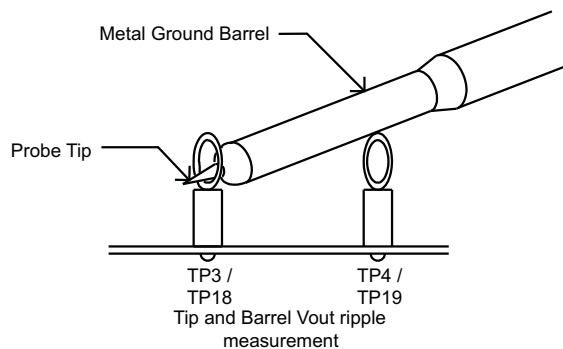

Figure 3. Output Ripple Measurement – Tip and Barrel using TP3 and TP4 or TP18 and TP19
TPS54291EVM-431 provides two test points for measuring the voltage generated by the module. This allows the user to measure the actual module output voltage without losses from output cables and connectors. All output voltage measurements should be made between TP3 and TP4. To use TP3 and TP4, connect a voltmeter positive terminal to TP3 and negative terminal to TP4. For Output ripple measurements, TP3 and TP4 allow a user to limit the ground loop area by using the Tip and Barrel measurement technique shown in Figure 3. All output ripple measurements should be made using the Tip and Barrel measurement. . Even this Tip and Barrel measurement technique increases the measured switch edge noise. For improved output ripple measurement, measure the output ripple at the output capacitor (C5)
TPS54291EVM-431 provides two test points for measuring the voltage generated by the module. This allows the user to measure the actual module output voltage without losses from output cables and connector losses. All output voltage measurements should be made between TP18 and TP19. To use TP18 and TP19, connect a voltmeter positive terminal to TP18 and negative terminal to TP19. For Output ripple measurements, TP18 and TP19 allow a user to limit the ground loop area by using the Tip and Barrel measurement technique shown in Figure 3. All output ripple measurements should be made using the Tip and Barrel measurement. Even this Tip and Barrel measurement technique increases the measured switch edge noise. For improved output ripple measurement, measure the output ripple at the output capacitor (C17).
The input voltage source (V_{IN}) should be a 0-15V variable DC source capable of 2A_{dc}. Connect V_{IN} to J1 as shown in Figure 3.
A Digital or Analog Oscilloscope can be used to measure the ripple voltage on VOUT1 or VOUT2. The Oscilloscope should be set for 1M Ω impedance, 20MHz Bandwidth, AC coupling, 1 μ s/division horizontal resolution, 10mV/division vertical resolution for taking output ripple measurements. TP3 and TP4 or TP18 and TP19 can be used to measure the output ripple voltages by placing the oscilloscope probe tip through TP3 or TP18 and holding the ground barrel to TP4 or TP19 as shown in Figure 3. For a hands free approach, the loop in TP4 or TP19 can be cut and opened to cradle the probe barrel. Using a leaded ground connection may induce additional noise due to the large ground loop area.
9. Place Fan as shown in Figure 3 and turn on, making sure air is flowing across the EVM.
5. Connect Oscilloscope Probe to TP3 and TP4 or TP18 and TP19 as shown in Figure 3